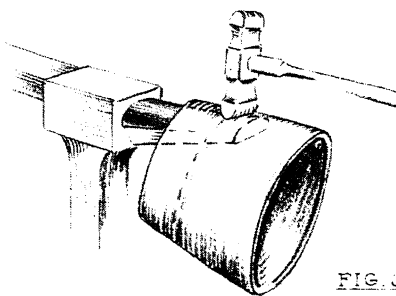

FIG. 3
5. Start shaping the pitcher (Fig. 3).